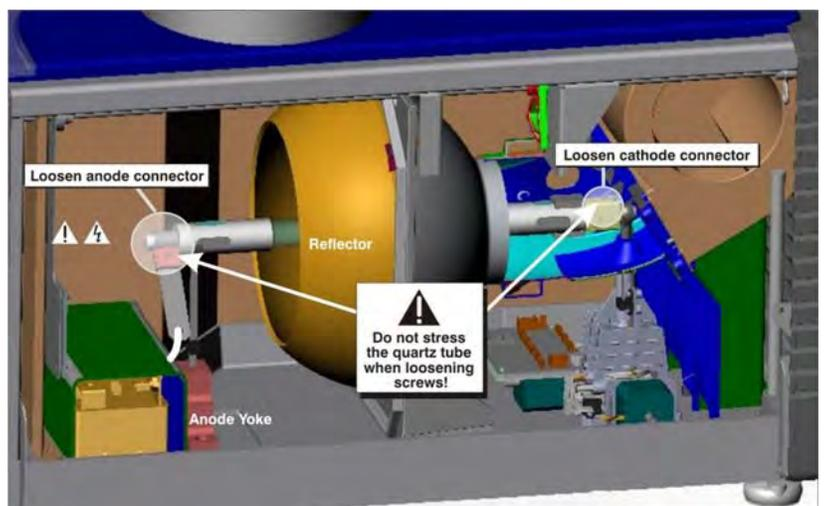

Figure 5-45 Remove Lamp
- b. Loosen set screws from negative/cathode and positive/anode lamp connectors. Make sure to apply minimal torque and DO NOT STRESS the quartz tube (Figure 5-45).